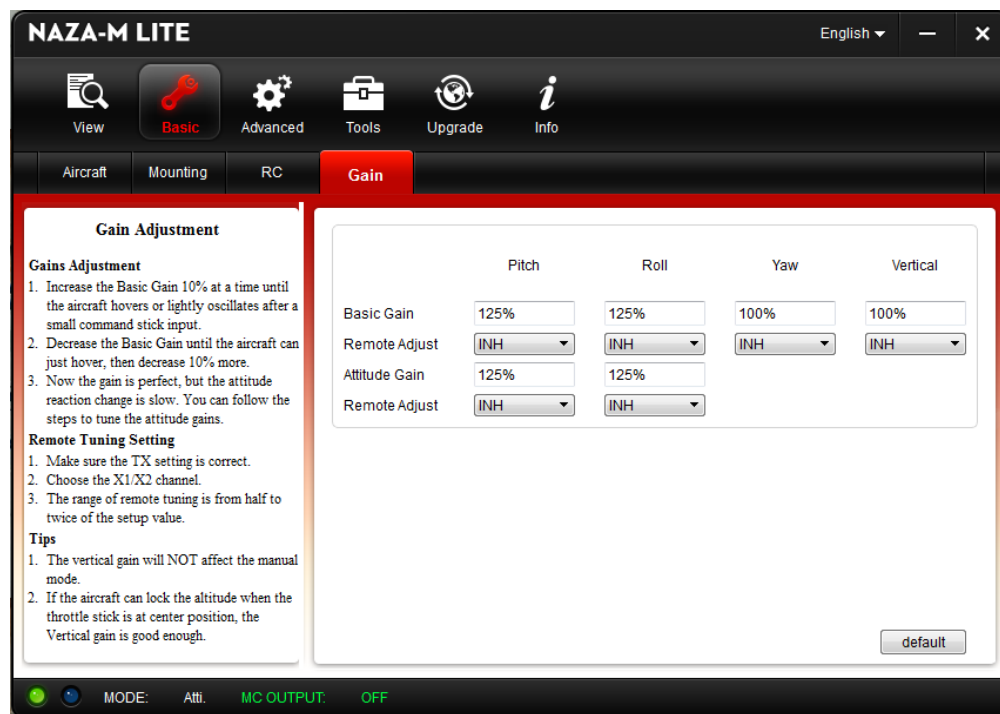

Figure 10: "Gain" page.
- The **Basic Gain** subsection determines how much the quadcopter will automatically try to correct changes in position and angle (see Figure 10).